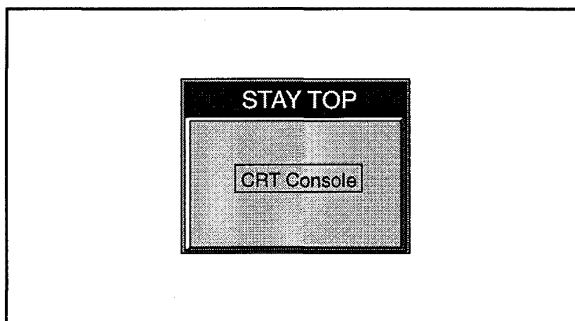

Figure 24. StayTop Window
1. Creates a StayTop window which can not usually be covered up by other windows in the Windows work area (see Figure 24). The StayTop window can be covered up by screen savers and some other windows.